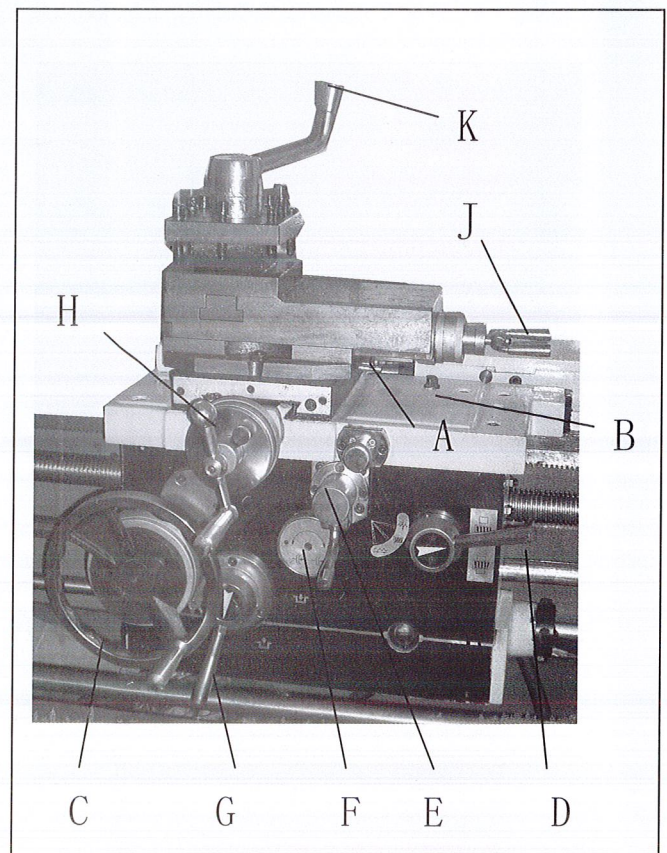

Fig.13
6. **Cross Slide Lock:** (A, Fig.13) Lever located on left side of cross slide. Turn clockwise to lock and counter-clockwise to unlock.
7. **Carriage Lock:** (B, Fig.13) Lock handle located on top right of carriage. Turn clockwise to lock. Turn counter-clockwise to unlock.
8. **Longitudinal Traverse Hand Wheel:** (C, Fig.13) Located on the apron assembly. Rotate hand wheel clockwise to move the apron assembly toward the tailstock (right). Rotate the wheel counter-clockwise to move the apron assembly toward the headstock (left).
9. **Longitudinal/Cross Feed Selector Lever:** (E, Fig.13) Can be pushed to upper, middle and lower three positions. Push the lever up, cross feed is effected. Push the lever down, longitudinal feed is effected. When the lever is in the middle position, screws can be cut by engaging the half nut.
10. **Half Nut Lever:** (D, Fig. 13) Located in the front of the apron assembly. Used for threading.
11. **Feed Engage Lever:** (G, Fig.13) Located in the front of the apron assembly. Pull lever up to engage. Push lever down to disengage.
12. **Adjustable Feed Clutch:** (F, Fig.13) When the machine is overloaded, it can slip. Then cutting rate must be reduced. **Note:** This setting has been calibrated at the factory and should not need adjustment. If adjustment is necessary, follow the diagram on the front of the apron.
13. **Cross Traverse Hand Wheel:** (H, Fig.13) Located above the apron assembly. Clockwise rotation moves the cross slide toward the rear of machine.
14. **Compound Rest Traverse Handle:** (J, Fig.13) Located on the end of the compound slide. Rotate clockwise or counter-clockwise to move, or position.
15. **Tool Post Clamping Lever:** (K, Fig.13) Located on top of the tool post. Rotate counter-clockwise to loosen and clockwise to tighten.